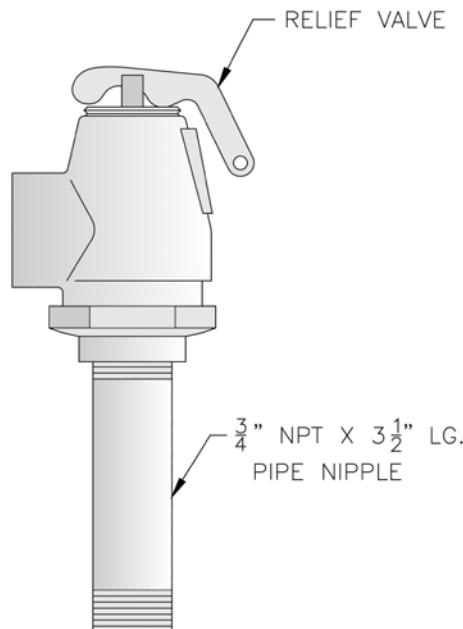

Figure 16: Safety Relief Valve Installation
C. Install Safety Relief Valve. See Figure 16. Components are located in Water Trim Carton. Safety Relief Valve must be installed with spindle in vertical position.